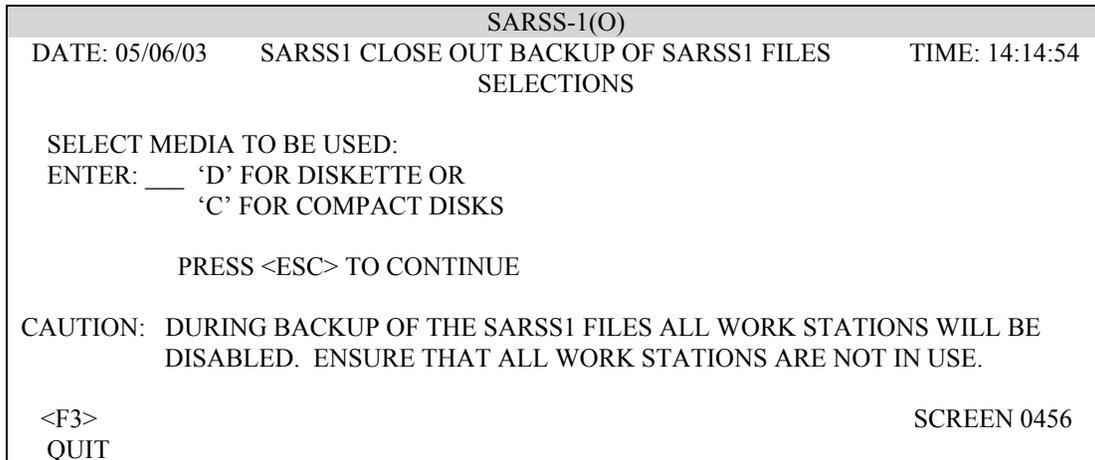

Figure 4-25 Media Selection Screen 0456
4.5 Close-out (CLO) Changes. The backup portion of Close-out has been changed to accommodate the replacement of the 4mm tape drive with a CD-RW drive. The valid media types for backup are now diskettes and CD-ROMS. The Media Selection screen (see Figure 4-25) has been changed to use 'C' for compact Disks (CDs) as opposed to 'T' for tape streamer. There are new screens that will display the progress of the backup to the CD-ROM. You may use CD-RW CD-ROMS that have previously used. If you are going to use CD-R CD-ROMS, they must be new blank CD-ROMS or you will receive an error and will be prompted to insert a blank CD-ROM.
4.5.1 Closeout Backup Process. When close-out gets to the backup portion the Close-out Media Selection screen will be displayed (Figure 4-25). You will be prompted to select the media type and to press <ESC>.